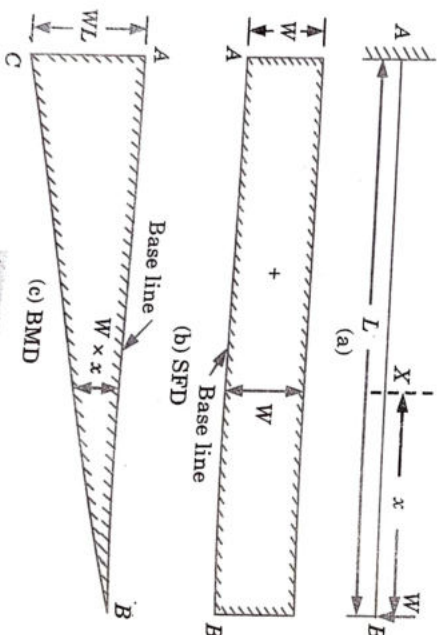

Fig. 1.22.1.
1. Fig. 1.22.1 shows a cantilever AB of length L fixed at A and free at B and carrying a point load W at the free end B .
6. The shear force will be constant at all sections of the cantilever between A and B as there is no other load between A and B . The shear force diagram is shown in Fig. 1.22.1(b).
3. At point A , take $AC = WL$ in the downward direction. Joint B to C . The BM diagram is shown in Fig. 1.22.1(c).